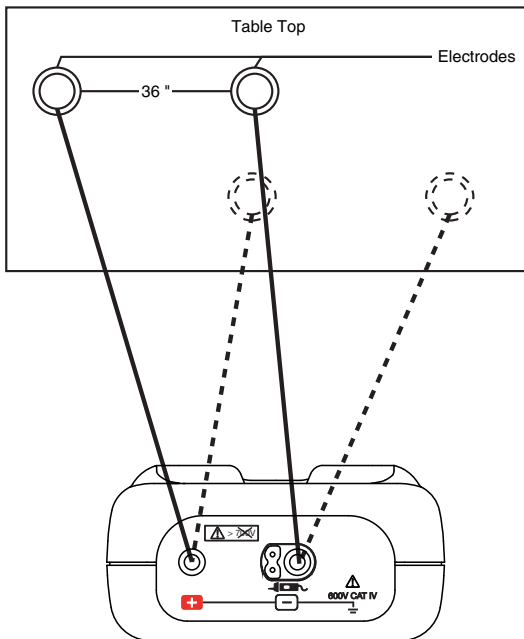

Figure 5
3. Unless otherwise specified, make five measurements on each floor section with the weights at different locations for each measurement, and record the value to two significant figures (see Figure 5 below).
- Resistance from electrode to electrode (Figure 5): Measured value:  $\geq 1 \text{ M}\Omega$